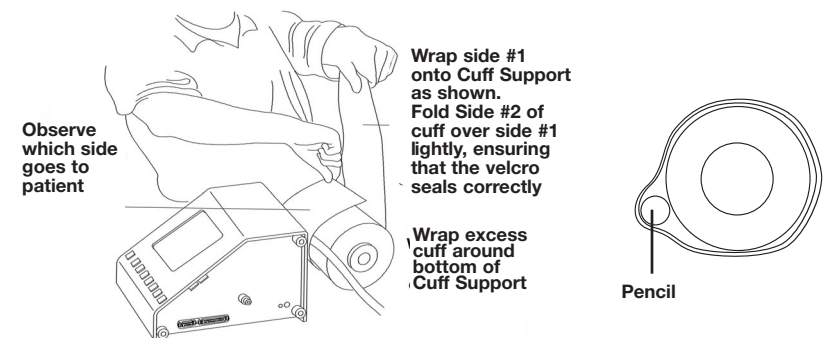

Figure 2. Wrapping the Cuff Around the Cuff Support
2. Assuming you are using an adult cuff, wrap the cuff around the **AccuPulse** cuff support on the back of the **AccuPulse** just as you would wrap it around a patient's arm. You should be able to fit a pencil between cuff and mandrel. Please see Figure 2 "Wrapping the Cuff Around the Cuff Support" illustration below: